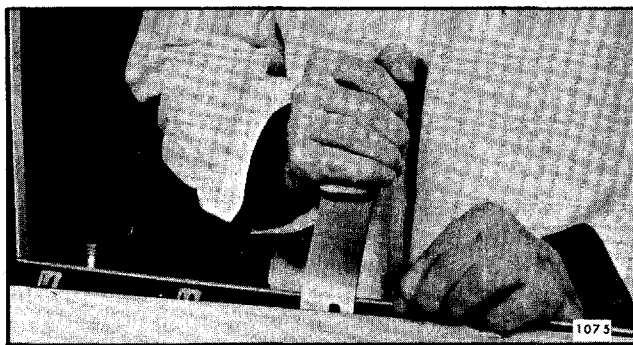

Fig. 5-36-Clip Retained Belt Sealing Strip Removal
- b. Using a flat-bladed tool that is slotted to fit over tang of clip, disengage clips from slots in door panel return flange as shown in Figure 5-36.